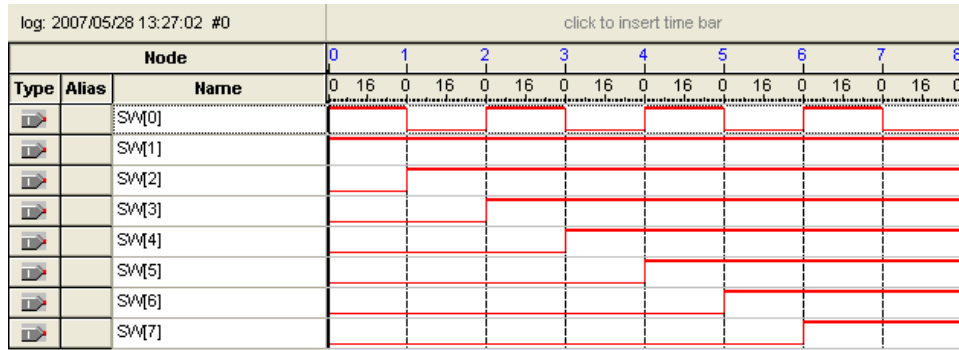

Figure 27. Possible waveforms that could result when using the Segmented Acquisition mode.
5. Go back to the SignalTap II window and click Run Analysis. Now, flip SW[0] up and down, and in between flips change the values of the other 7 switches. After you have done this 8 times, the values in the buffer will be displayed in the data window, and this will display the values that the 8 switches were at around each trigger. A possible waveform is presented in Figure 27. This resulted from the user flipping up one more switch between each flip of SW[0].